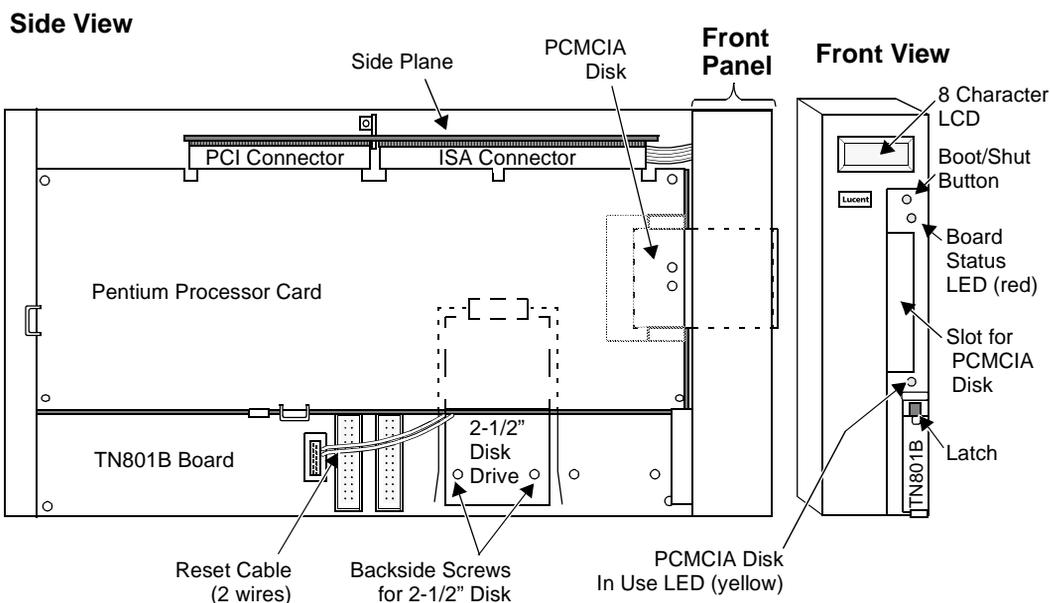

Figure 2-6. MAPD System Assembly (J58890MA-1)
5. Insert the system assembly (see Figure 2-6, "MAPD System Assembly \(J58890MA-1\)") into the switch cabinet as follows: